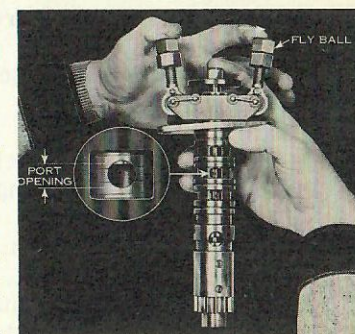

FIG. 15-1
3. Continue holding down on pilot valve plunger and move flyballs to outer position raising the pilot valve land, Fig. 15-1. Note amount of port opening.